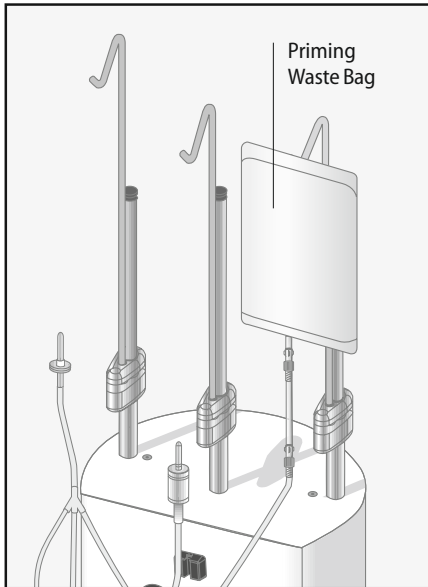

Figure 4-3.1: Attach Priming Waste Bag to bag hanger
1. Attach the Priming Waste Bag to the right hand bag hanger on the instrument as shown (see Figure 4-3.1).